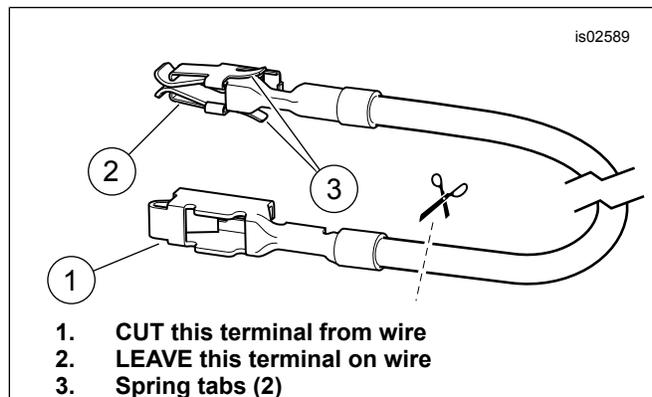

Figure 8. Fuse Block Adapter Wire (Dyna and Softail)
3. See Figure 22. Obtain the orange/white fuse block adapter wire (9) from the kit. Note the terminal on each end (see Figure 8). Only the terminal with the spring tabs will fit into this fuse block. Carefully cut the unused terminal from the wire and discard it.